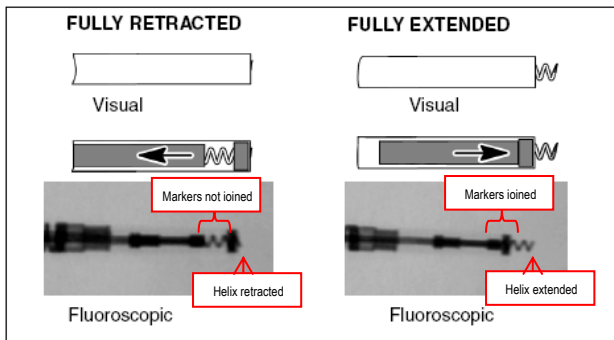

Figure 2. Fluoroscopic markers illustrating appropriate retraction/extension
4. Verify under fluoroscopy that the radiopaque markers are joined and the fixation helix is extended outside the distal fluoroscopy marker (Figure 2).